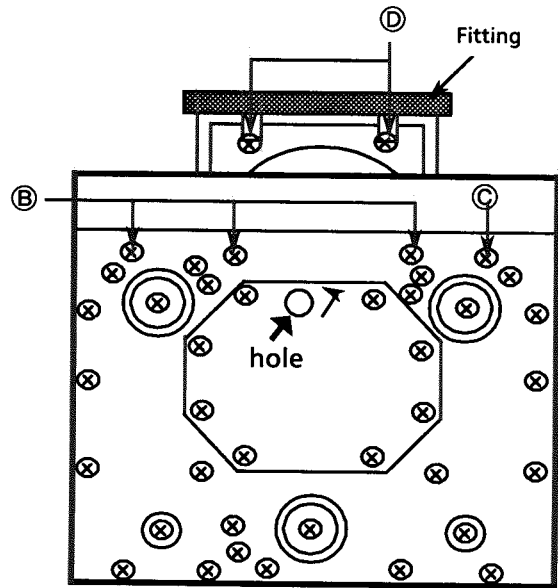

Fig.3 Bottom side
1. Remove 8 screws (A) fastening both sides of said panel. Remove the side panel.
2. Remove 4 screws (B) fastening both sides and remove 2 screws (B) rear side.
3. Remove 3 screws (B) and a screw (C) fastening front panel. (Fig.3)